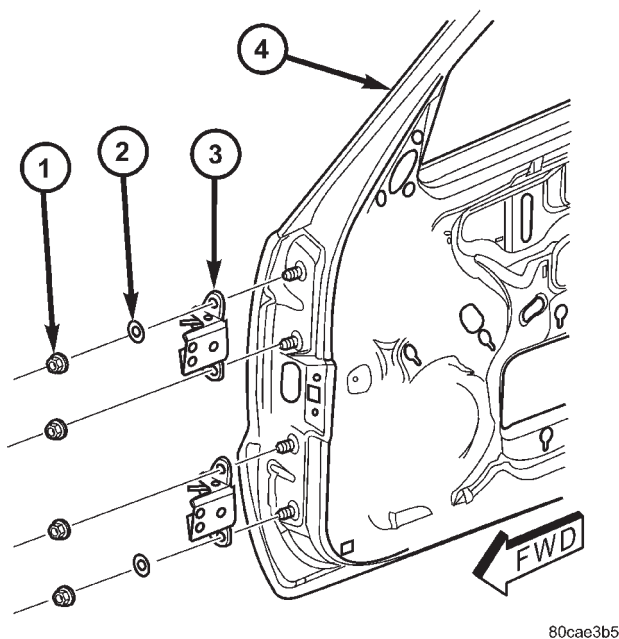

Fig. 2 HINGES
- (4) Remove the nuts attaching the door hinges to the door. (Fig. 2)